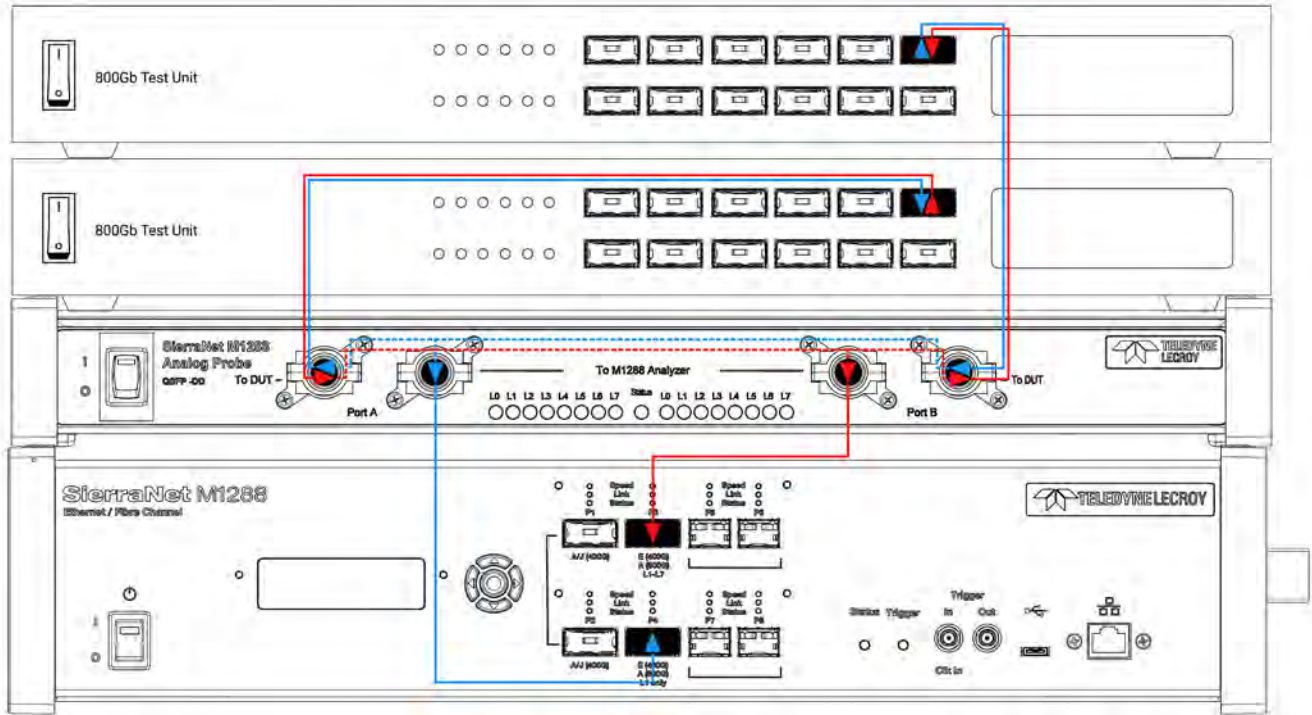

Figure 2.5: L1 Analysis through Ports P3-P4 Connections
1. For L1 analysis only in 800GbE (only Auto Negotiation (AN) and Link Training (LT)), these ports can be used on a single SierraNet M1288 unit and the M1288 Probe, as follows: See Figure 2.5.